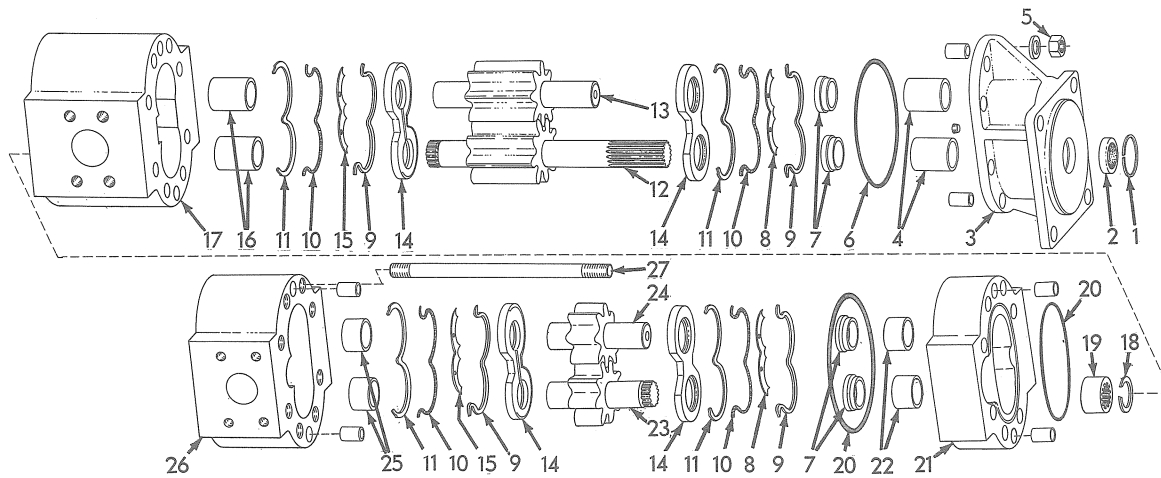
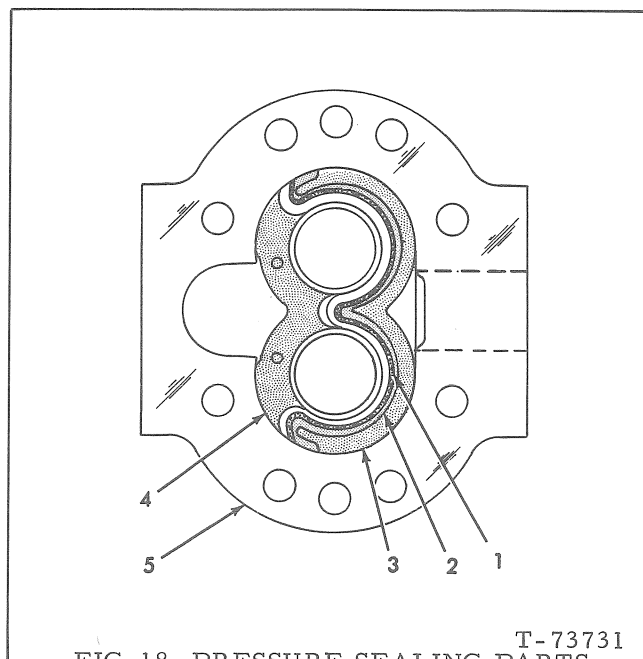

FIG. 17 HYDRAULIC PUMP
FIG. 18 PRESSURE SEALING PARTS
Place pump on a smooth clean surface. Remove nuts, Fig. 17 (5), and plain washers from flange end of pump.
Position pump body, Fig. 17 (26), on a clean work bench, machined face up and outlet port to your right as shown in Fig. 18.
Examine the isolation plates, Fig. 17(8, 15); note that two of them have rounded edges. Install one of these plates, rounded edge down into pump body bore as shown in Fig. 18 (4). Install rubber seal ring (1), Teflon back-up ring (2) and nylon seal retainer (3).
Install wear plate, Fig. 17 (14), over seal, bronze side up and relief pocket to your right (outlet side of pump body). If plate binds on way down, do not force it into place. Work back and forth gently until it slides into position.
Install splined drive shaft and gear, Fig. 17 (23), in lower pump body bore when pump body is viewed as shown in Fig. 18. Install driven shaft and gear, Fig. 17 (24), in opposite bore.
Position the other isolation plate (plate with square edges) on the wear plate to your right (outlet side of pump body) as shown in Fig. 18 (4). Install rubber seal ring (1), Teflon back-up ring (2) and nylon seal retainer (3).
Place a new O-ring, Fig. 17 (20), in groove in plate (21) and install plate in position on pump body (26) making sure marks put on at disassembly are aligned. Press or tap plate down until seated.